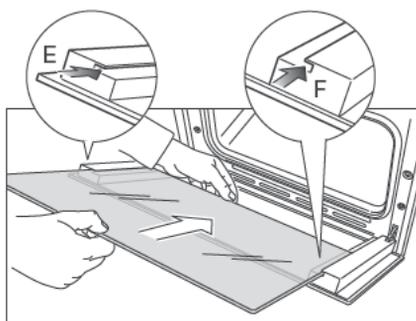
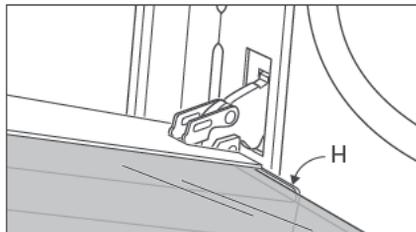

Fig.26b
Fig.26c
- Insert the pane in the left "E" and right "F" slide guides (Fig. 26b), and gently slide it to the retainers "H" (Fig. 26c).